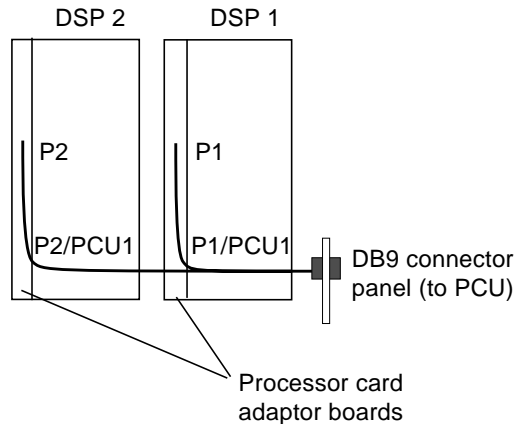

FIGURE 6-3 PCU Data Cable, StorEdge A7000 Internal Connection
6. Connect the PCU data cables to serial port 3 on the appropriate processor card adaptor board. See FIGURE 6-3.